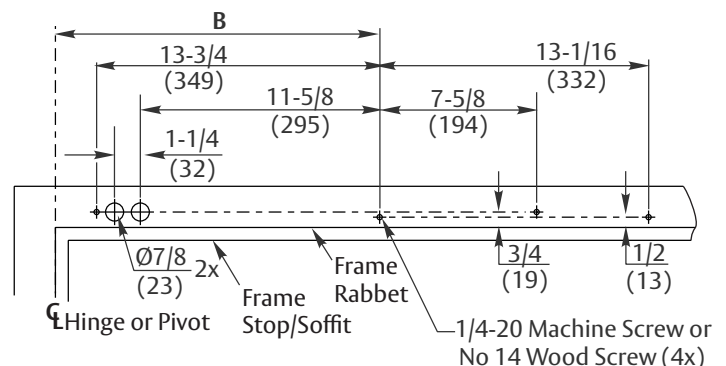

Figure 3 Left Hand Shown
4. Using detailed template on page 15, prepare four (4) holes for 1/4-20 machine screws or 14 x 2-3/4" wood screws. Blind rivet nut (by others) is suggested for unreinforced hollow metal or aluminum frames. (Figure 3)
5. For concealed mounted conduit (if applicable): Prepare two (2) 7/8" (22mm) diameter holes for conduit, for power input and for switch/sensor wires.